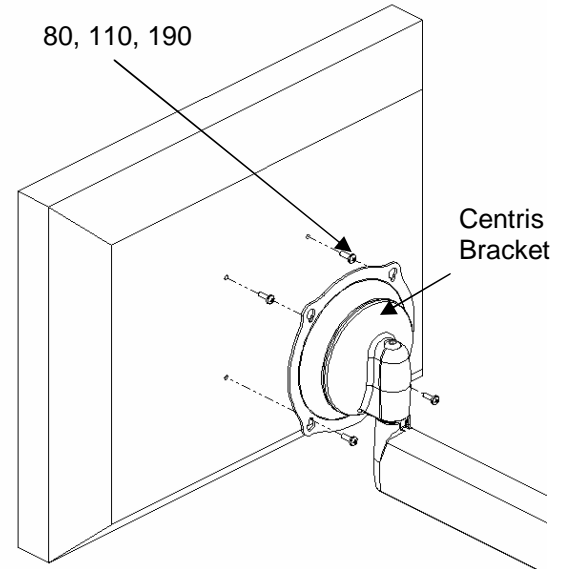

Figure 6. Flush Mount Centris Bracket to Display
1. Start two (80, 110, 190) into top mounting holes on display (see Figure 6).